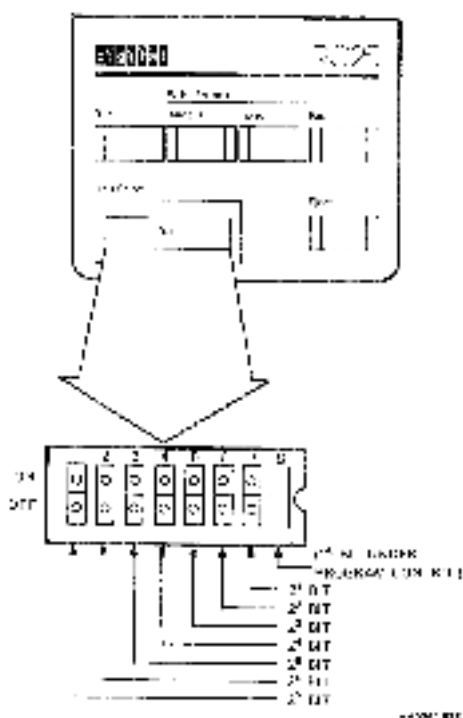

Figure 2-3 Changing the Unit Select Number: DIP Switch
3. When working with the switch, orient it so that the number 1 position is on the left (Figure 2-3).
This switch package selects the high seven binary bits of an 8-bit unit select field. The least significant bit of this 8-bit field is selected by the internal firmware because each drive has two units. Go to step 4 to set the DIP switches (Figure 2-3).